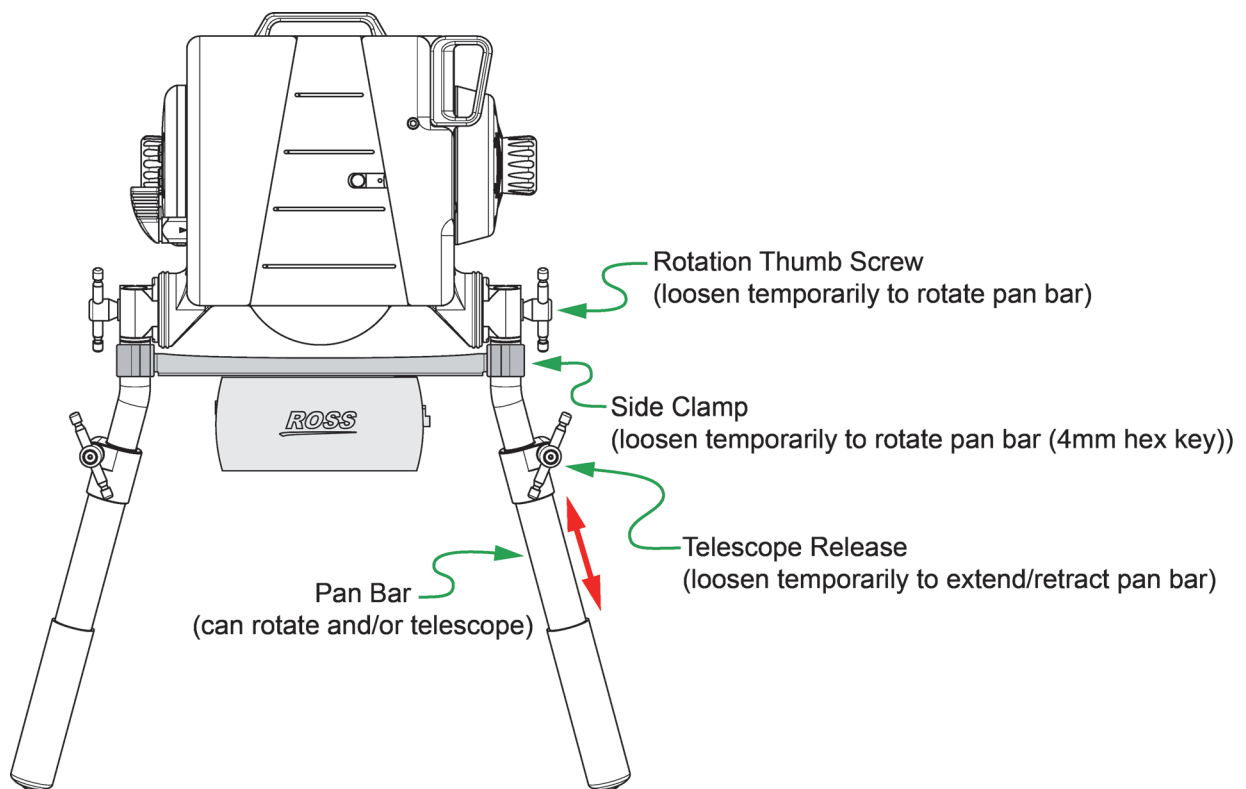

Figure 3.7 - Adjusting the Pan Bars (rotate and/or extend/retract)
- d. Adjust the direction that the pan bars point, to suit your preferences (see **Figure 3.7**):
e. Adjust the length of each pan bar, to suit your preferences (see **Figure 3.7**):